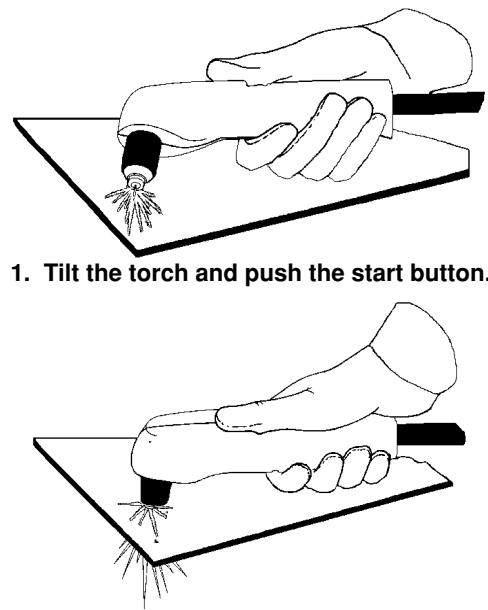

Figure 4-7 Piercing
- Start the cut at an angle rather than in an upright position. This method permits the hot metal to escape to one side rather than splashing back against the nozzle, protecting the operator from the sparks and extending the nozzle life (Fig. 4-7).